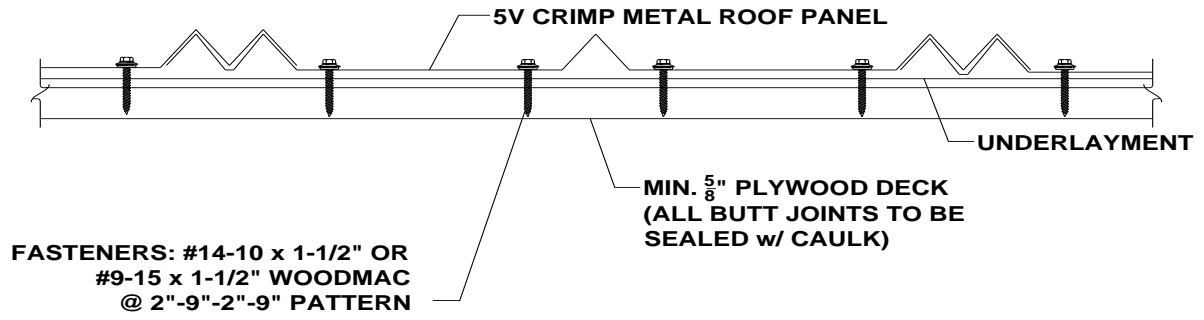

Figure 1. 5V Crimp Panel Detail
**Panels:** The 5V crimp steel roof panels must be secured to the roof deck as specified in Table 1 and in this section. Refer to Figure 1 for an illustration of the required fastener pattern.
**Fastener Spacing:** A line of fasteners are to be installed beginning at the center line of the double V at the side lap in a 2-9-2-9 pattern for a total of four (4) fasteners across the width of the panel. The fastener spacing is to be 36" on center along the length of the panel.